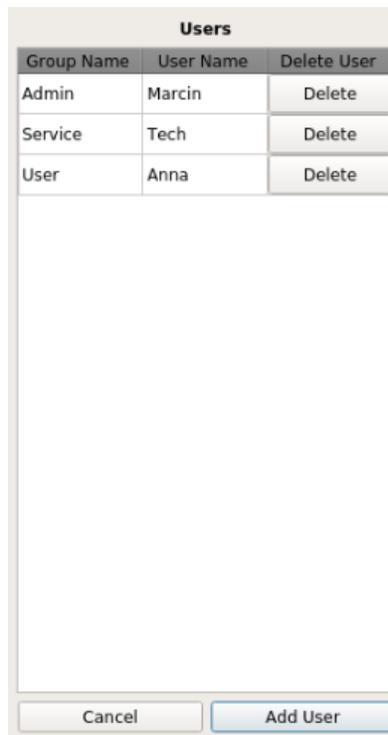

Figure 56: Group/User Dialog-Box
2. Click **Group/User Account**: The *Users* dialog-box shown in Figure 56 appears.